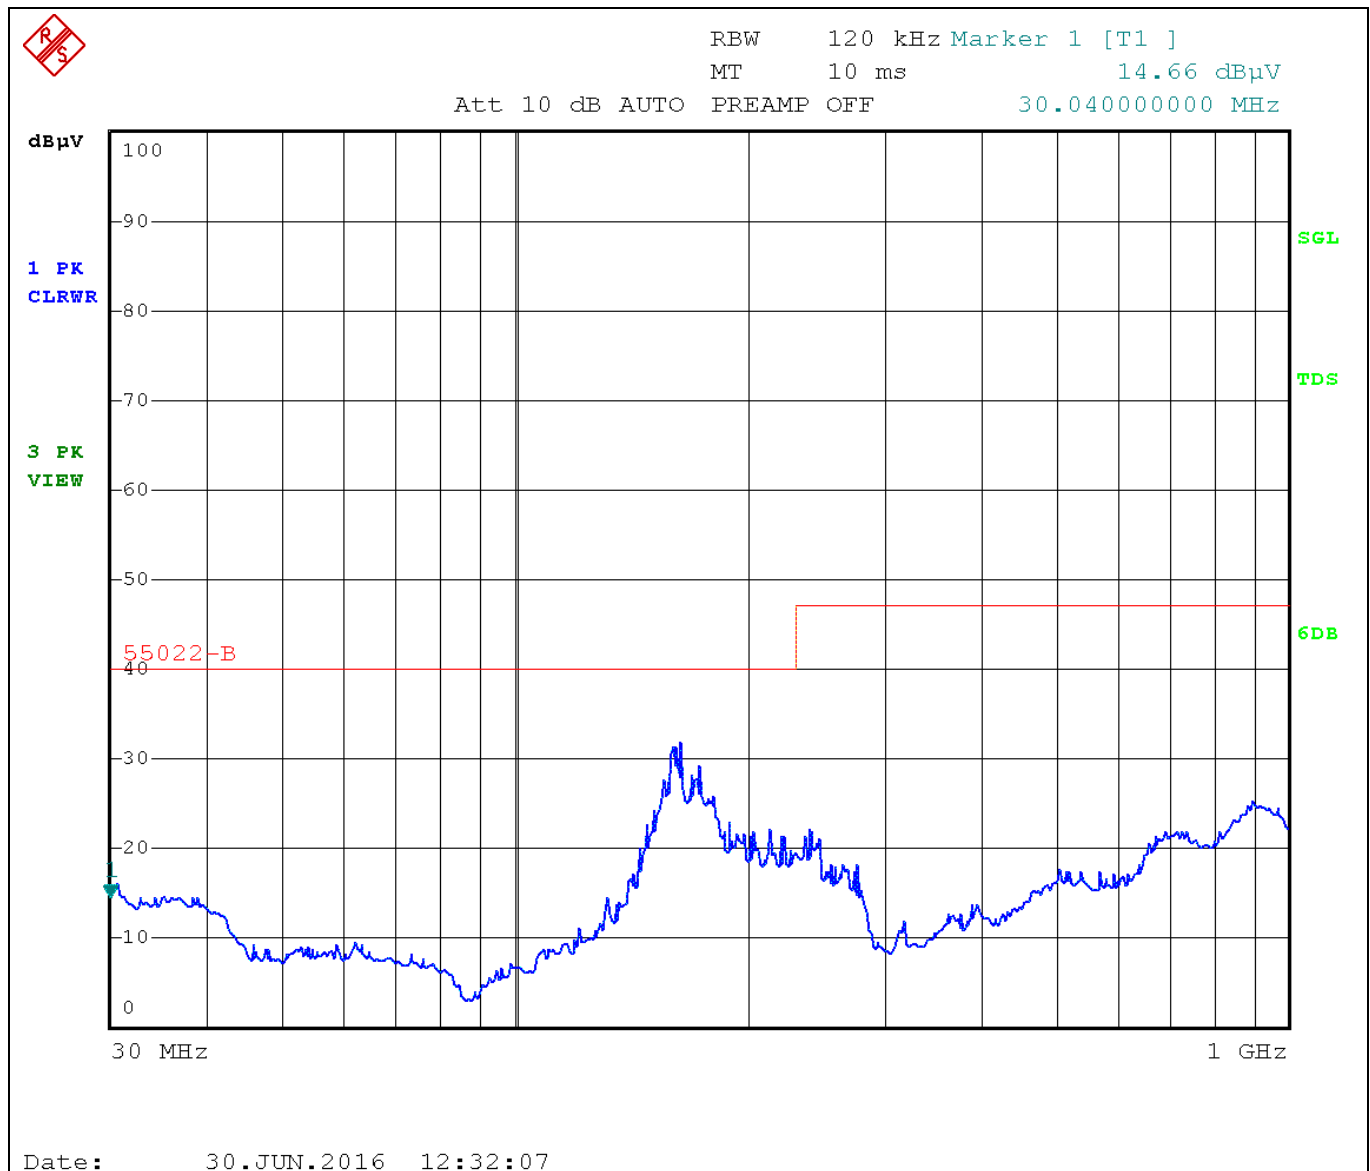

Figure 18 EMI-radiated measurement results. Board positioned toward antenna. Antenna position is horizontal
- Board was positioned toward the antenna and the antenna was horizontal (Figure 18)